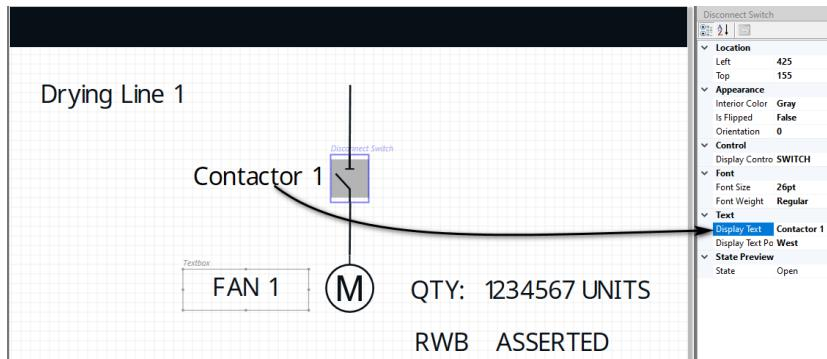

Figure 8.78 Edit Disconnect Switch
- Step 4. Name the two-position disconnect by changing the **Display Text** indicated in *Figure 8.78*. This is the identifier used to configure the Open, Close, and Alarm input settings in QuickSet.